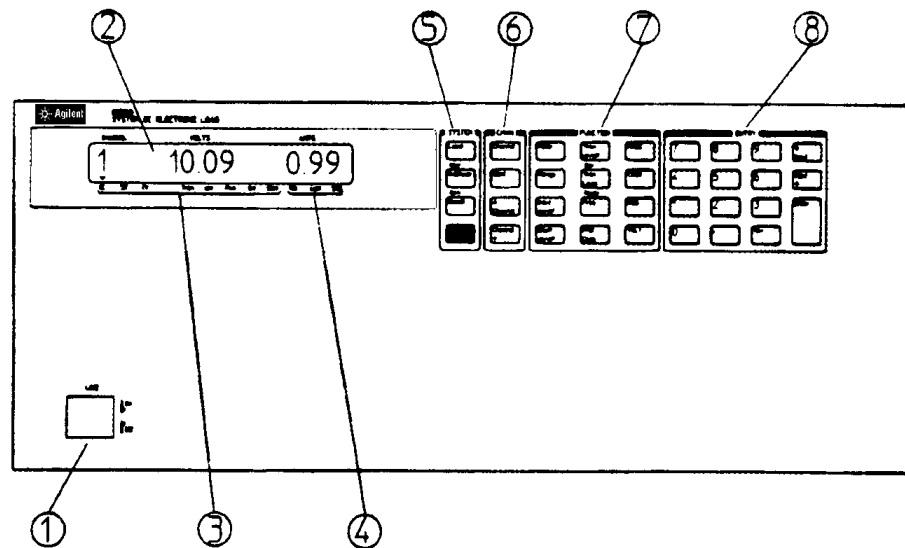

Figure 4.1. Agilent 6050A Front Panel
The Multiple Electronic Load can be programmed locally using the controls and indicators on the front panel. As shown in Figure 4-1, the front panel's controls and indicators include a 12-segment LCD display and a keypad having four groups of keys (SYSTEM, CHAN, FUNCTION, and ENTRY). Table 4-1 gives a brief description of each control and indicator.
2 LCD Display	Normally displays the selected input channel number and the actual voltage and current at that input, for example, "1 10.09 0.99" as shown in Figure 4-1. When programmed from the front panel, the channel number and the function being programmed are displayed. For example, "1 CURR 1.000" indicates that the channel 1 CURR function is set to 1.00 amperes.
3 Electronic Load Status Annunciators	CC-Indicates the selected channel is in the constant current (CC) mode. Note that Figure 4-1 illustrates that channel 1 is in the CC mode (CC annunciator is on). CR-Indicates the selected input channel is in the constant resistance (CR) mode. CV-Indicates the selected input channel is in the constant voltage (CV) mode. Tran-Indicates that transient operation is enabled for the selected input channel. Unr-Indicates that the selected input channel is unregulated (applies only in the CC mode and in the middle and high ranges of the CR mode). Prot-Indicates when channel protection features (CC, OV, OP, OT, etc.) are active on any channel. Err-Indicates that remote programming error(s) have occurred. Shift-Indicates that the shift key, bottom key (blue) in SYSTEM group, was pressed.